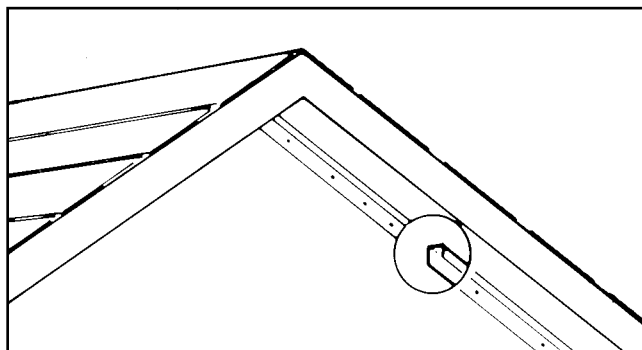

Fig 5.10
**6. GABLE AND GAMBREL ROOF TRIM** J-Channel should be applied to receive siding panels along the eaves of gable and gambrel roof areas (Fig. 5.10). Where two angled sections meet, one section should butt into the peak and the other section should overlap into the corner. Make a miter cut in the face flange of the channel for a better appearance. Fasten J-Channel every 6" to 12".